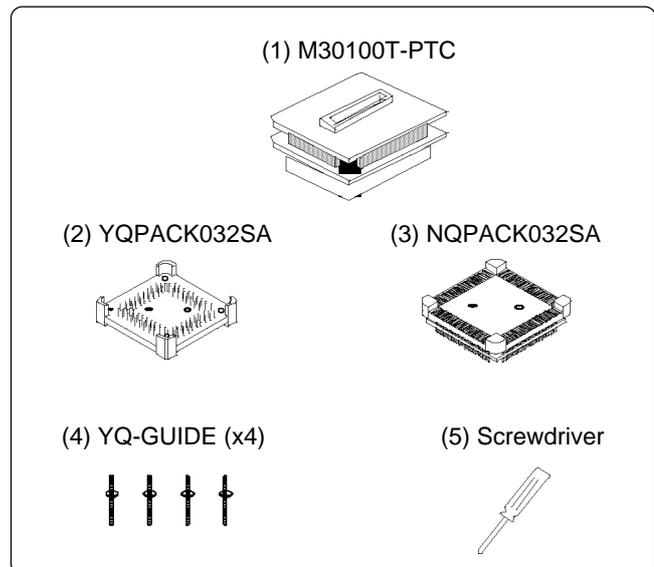

Figure 1 Package components of the M30100T-PTC
2. Package Components (see Figure 1)